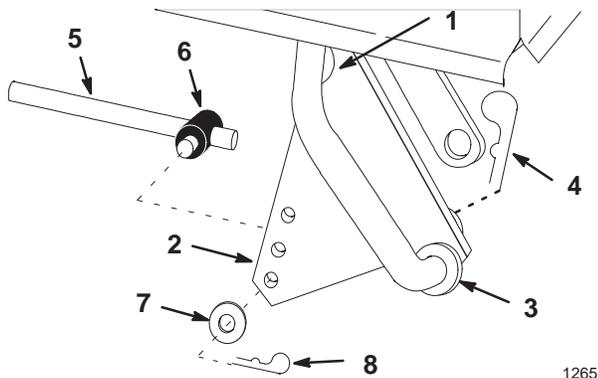

Figure 9
7. Position the notch in lift plate around the left side tractor lift arm and slide the lift plate onto the attachment lift arm (Fig. 9). Secure with hairpin cotter from mower, at lift arm.
8. Thread the trunnion onto the lift rod and insert into one of the holes in the attachment lift plate. Secure with a 9/16" washer and medium hairpin cotter (Fig. 9).